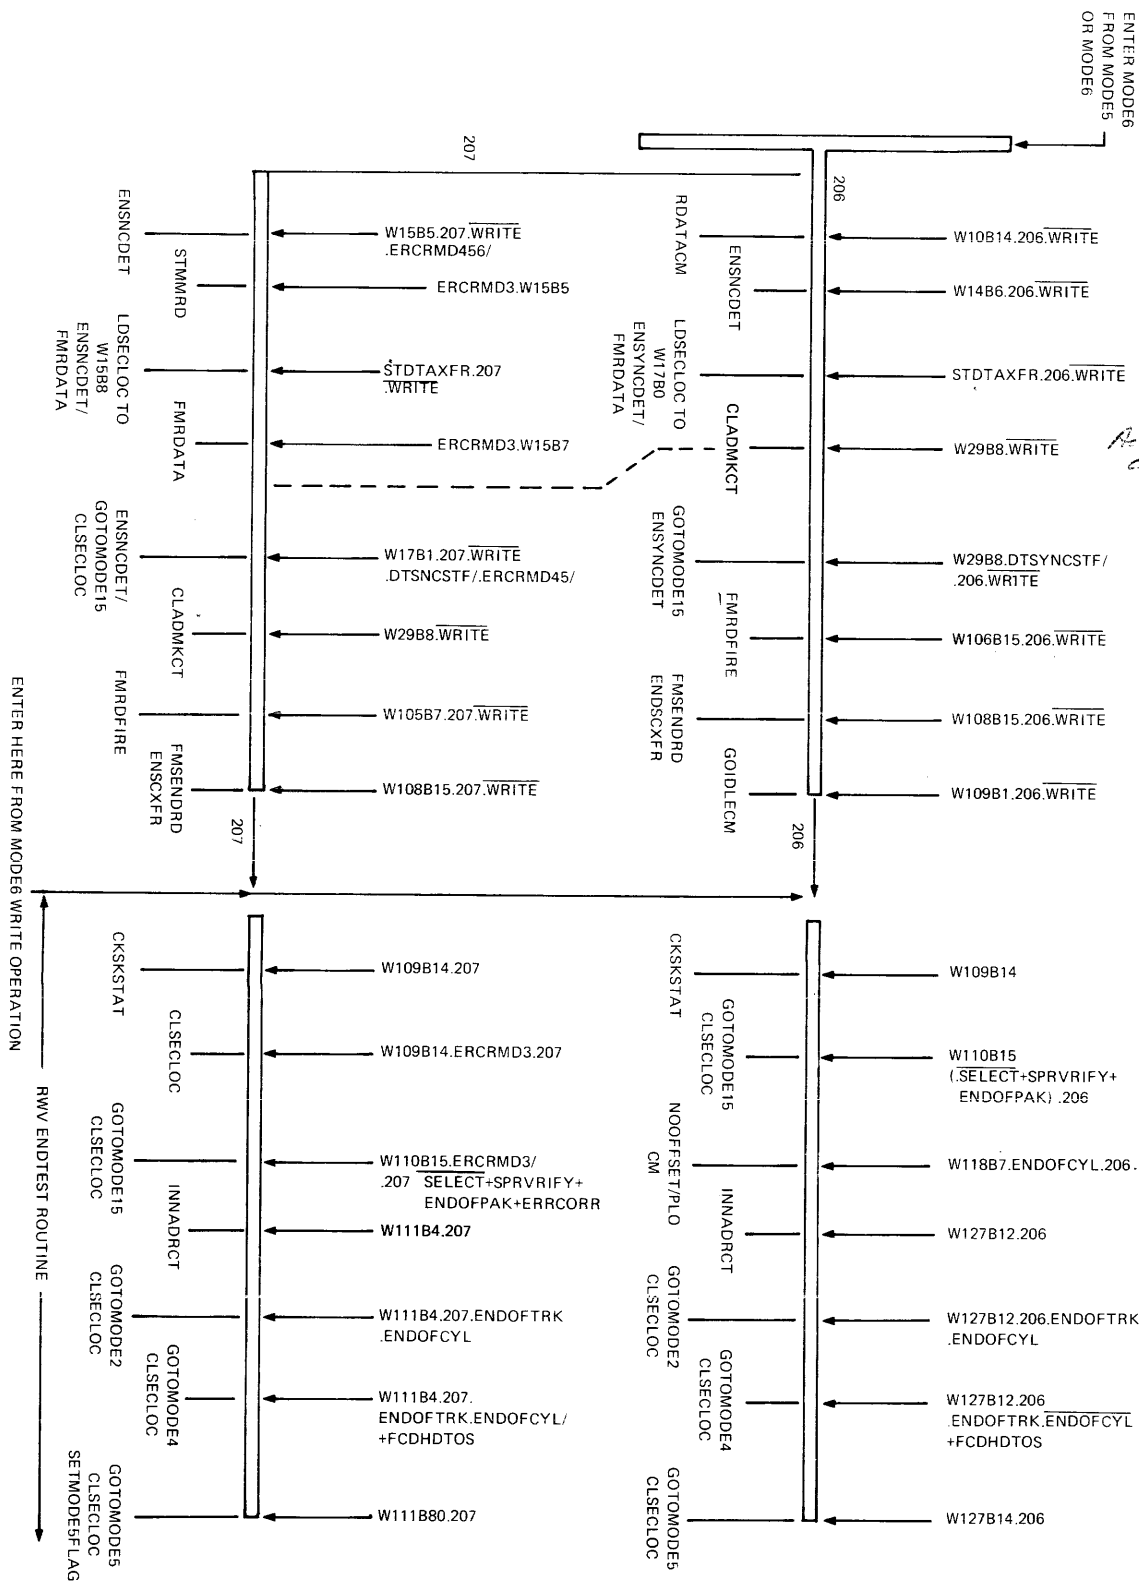

Figure 2-8. Mode 6, RWV DATAxFR
- 1) 206 READ or VERIFY (figure 2-8 upper left hand side).
- 3) 206 End test routine (figure 2-8 upper right hand side).
- 4) 207 Read or verify (figure 2-8 lower left hand side).
- 6) 207 End test routine (figure 2-8 lower right hand side).
The flow proceeds along the lower line of figure 2-8. At W15B5, the sync character detector is enabled. When error correction is not being performed, ERCRMD45/ is high.
See the flow in figure 2-8, lower line. During the READ phase the flow is identical to a READ without correction. However, during this time, data is written into the buffer memory and CKDPC is not permitted. (This prevents data from being accepted by the DPC).